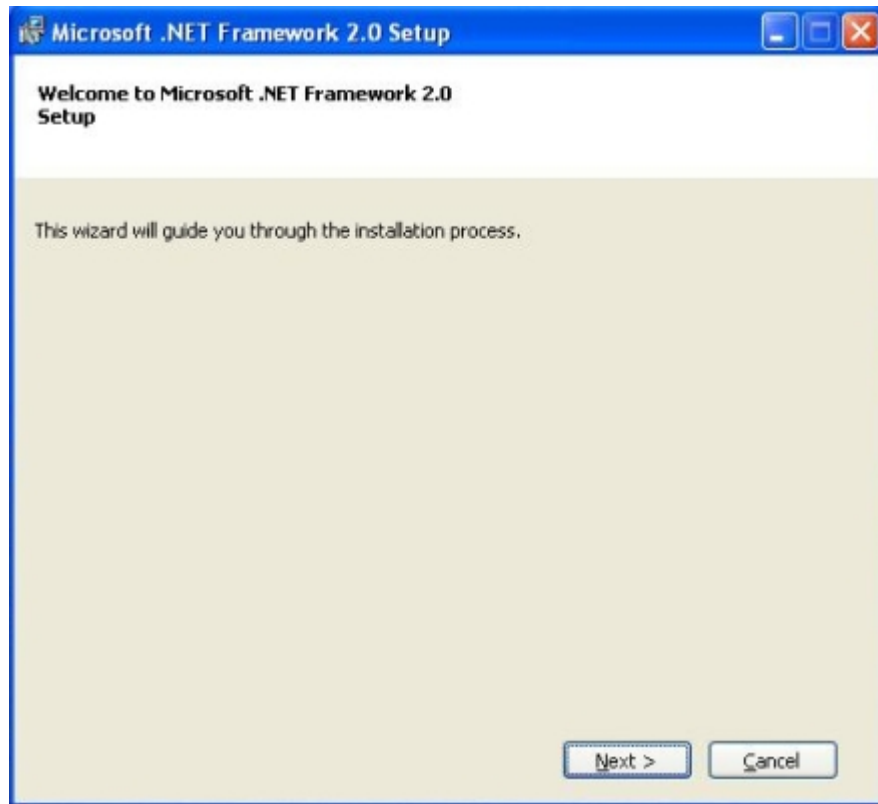

Figure F. 3 - .NET Framework 2.0 Setup Dialog Box
3. If the .NET Framework 2.0 Setup dialog is not the top dialog, click on it to give it the focus. Click **Next** to install the .NET Framework 2.0 setup, Figure F. 3.